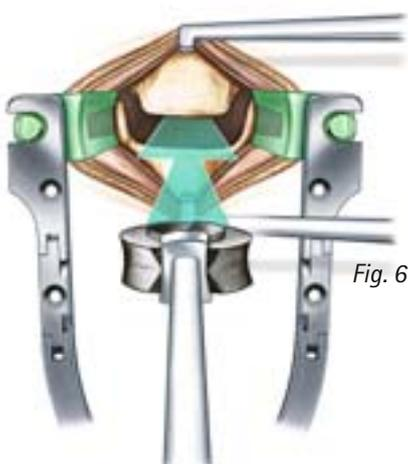

Fig. 6
- ★ Once CeSpace® is attached to the inserter, it can be introduced into the intervertebral space using image converter monitoring (Fig. 6).